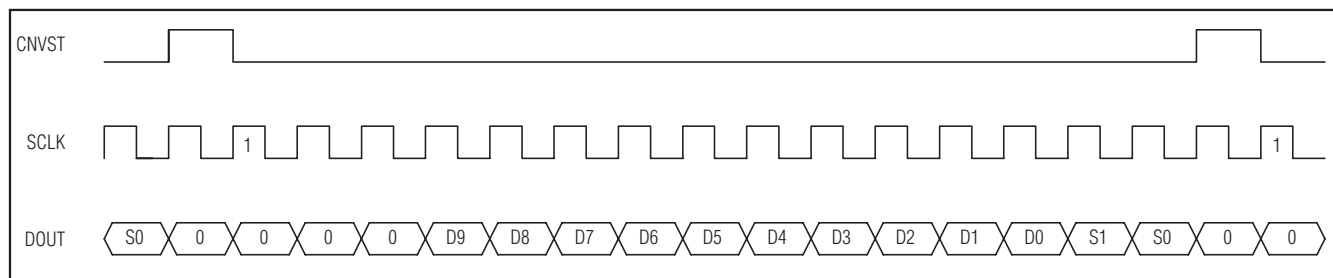

Figure 17. DSP Interface—Continuous Conversion
The MAX1072/MAX1075 can also be connected to the TMS320C54\_ by using the data transmit (DX) pin to drive CNVST and the CLKX generated internally to drive SCLK. A pullup resistor is required on the CNVST signal to keep it high when DX goes high impedance and 0001hex should be written to the DXR continuously for continuous conversions. The power-down modes may be entered by writing 00FFhex to the DXR (see Figures 17 and 18).
ters should be configured for late framing (LAFR = 1) and for an active-low frame (LTFS = 1, LRFS = 1) signal. This is also the best way to enter the power-down modes by setting the word length to 8 bits (SLEN = 1001). Connect the  $V_L$  pin to the ADSP21\_ \_ \_ supply voltage when the MAX1072/MAX1075 are operating with a supply voltage higher than the DSP supply voltage (see Figures 17 and 18).